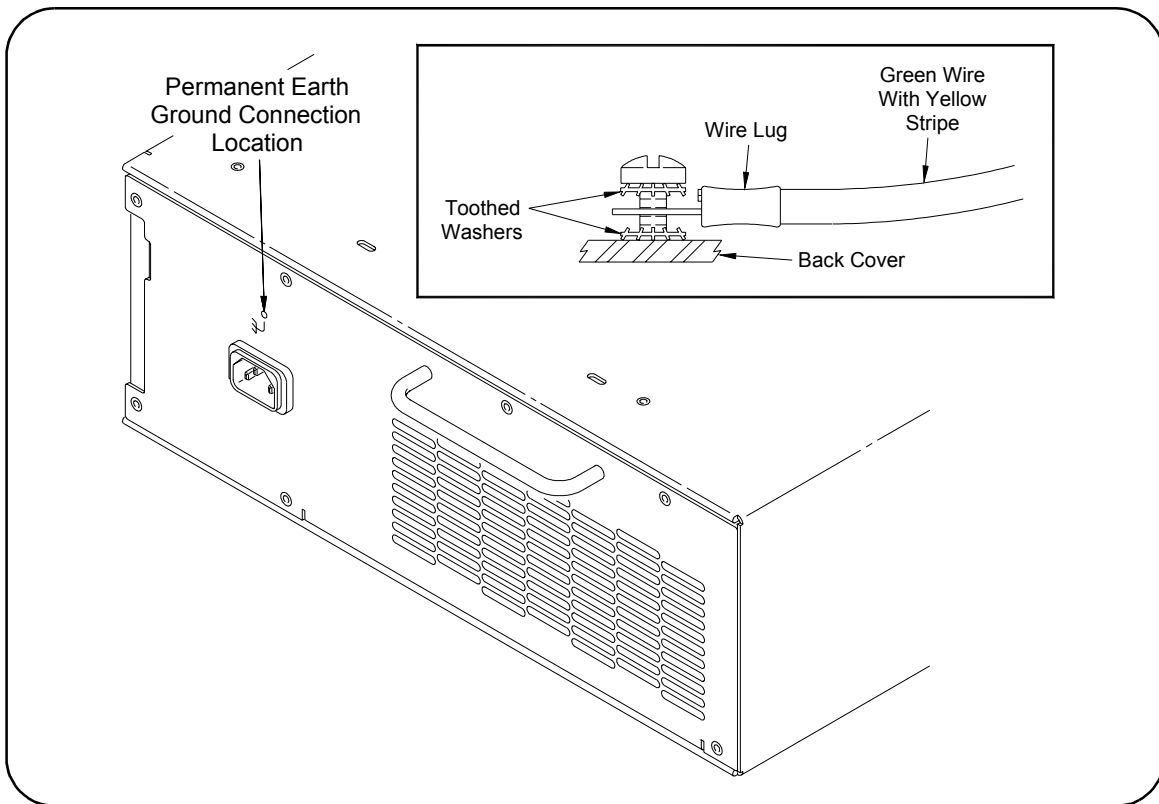

Figure 1-2. Connecting the 1266 Mainframe to a Permanent Earth Ground
The mainframe can be connected to a permanent earth ground. This connection is made on the back of the mainframe (see Figure 1-2).
- 1 Connect a 16 AWG (1.3 mm or larger) wire to the PEM nut shown in Figure 1-2. The wire must be green with a yellow stripe, or bare (no insulation). Use a M4 x 10 screw, grounding lug, and toothed washers (or toothed lug) as shown in Figure 1-2.